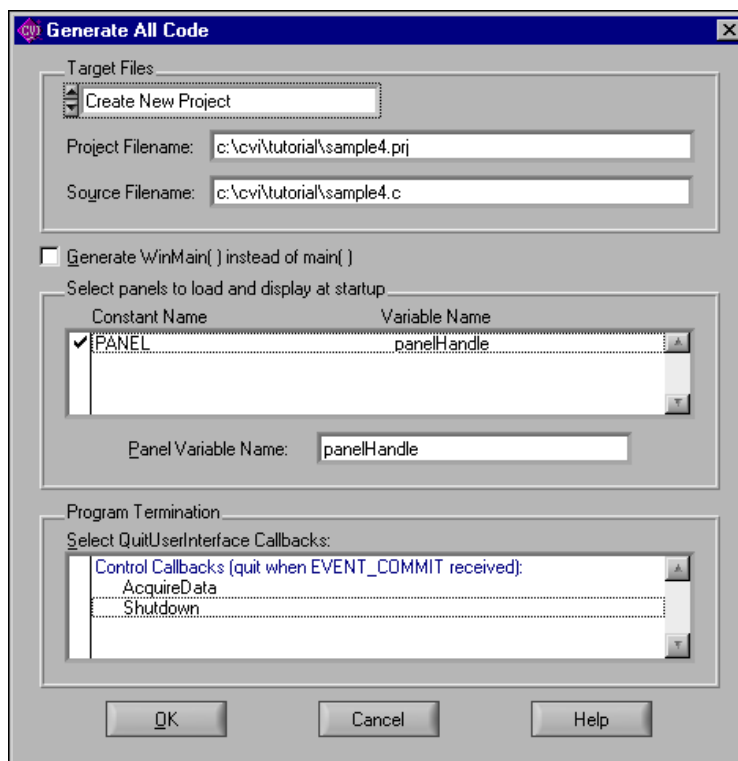

Figure 5-5. Generate All Code Dialog Box
5. The lower half of the Generate All Code dialog box shows a list of callback functions in your `.uir` file. You can select a function from this list that causes the program to terminate execution. In this case, select the **Shutdown** function in the dialog box so that a checkmark appears next to it. Verify that the Generate All Code dialog box matches the one shown in Figure 5-5.